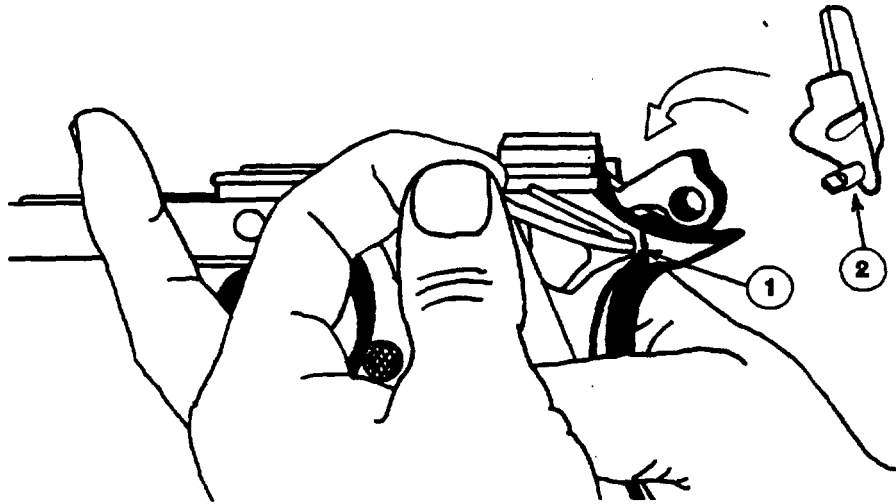
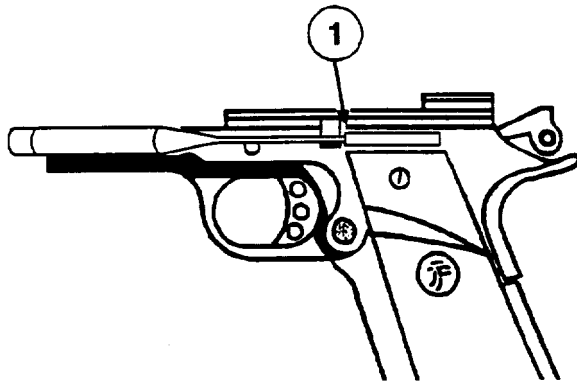
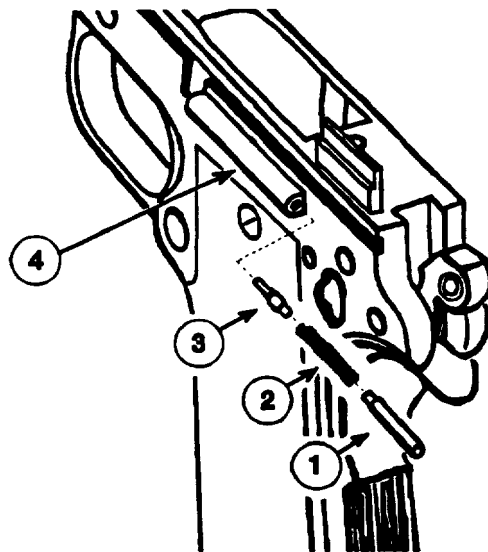
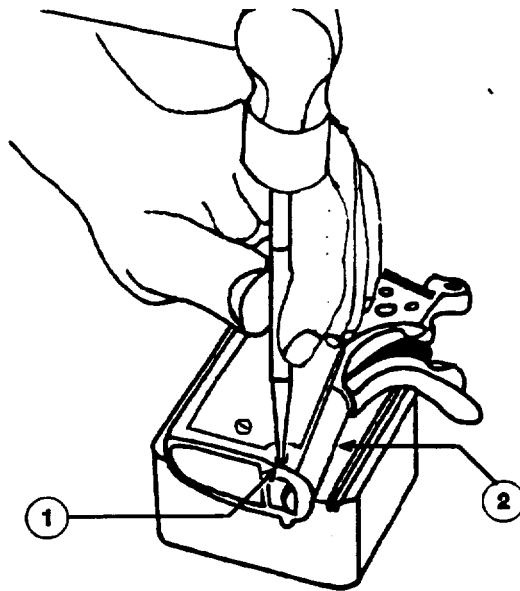

Figure 6-6. Removing Ambidextrous Thumb Safety
Figure 6-7. Removing Plunger Tube Group
Figure 6-8. Plunger Tube Group
Figure 6-9. Removing Mainspring Housing Pin
6-4. PLUNGER TUBE GROUP (Figures 6-6 thru 6-8)
(1) Field strip the pistol following the procedures outlined in para 3-2 of this Manual or in TM 00526A-10/1, Operator's Manual.
(2) Cock the hammer.
(3) Lift, wiggle and remove the *left side* ambidextrous thumb safety (1), Figure 6-6, from the pistol.
(4) Rotate the right side ambidextrous thumb safety (2), Figure 6-6, *down* to clear the hammer pin. Remove the ambidextrous thumb safety from the pistol.
(5) Place the receiver assembly on a bench block.
(6) Using a 1/16" punch, push components out of the plunger tube from the slide stop side of the plunger tube (1), Figure 6-7.
(7) Catch safety detent plunger (1), Figure 6-8, plunger spring (2), and slide stop plunger (3) as they emerge from the safety side of the plunger tube (4).
(1) Inspect the safety detent plunger (1), Figure 6-8, for wear and burrs. If worn or burred, replace safety plunger.
(2) Inspect the plunger spring (2), Figure 6-8, to make sure it is not bent or compressed. If bent or compressed, replace plunger spring.
(3) Inspect the slide stop plunger (3), Figure 6-8, for wear and burrs. If worn or burred, replace slide stop plunger.
(4) Inspect plunger tube (4), Figure 6-8, for burrs and deformation. If burred or deformed, evacuate to intermediate maintenance for repairs.
(1) Use a 1/16" punch to insert slide stop plunger (3), Figure 6-8, plunger spring (2) and safety plunger (1) through the safety side of the plunger tube (4).
(3) Install the right side ambidextrous thumb safety (2), Figure 6-6, and rotate it *up* to engage the hammer pin.
(4) Install the *left side* ambidextrous thumb safety (1), Figure 6-6. Push it in and rotate it *down so as to* engage the right side ambidextrous thumb safety.
(5) Reassemble slide assembly to receiver assembly by following the procedures outlined in para 3-3 of this Manual or in TM 00526A-10/1, Operator's Manual.
(6) Once the pistol is completely reassembled, perform the safety checks outlined in para 6-18 of this Manual.
6-7. MAINSPRING HOUSING GROUP (Figures 6-9 thru 6-12)
(4) Rotate the *right side* ambidextrous thumb safety (2), Figure 6-6, *down* to clear the hammer pin. Remove the ambidextrous thumb safety from the pistol.
(5) Release the hammer.
(6) Place the receiver assembly on a bench block.
(7) Using a 5/32" punch and 4 oz hammer, drive out mainspring housing pin (1), Figure 6-9, from the receiver assembly (2).
(5) Use a 5/32” punch and 4 oz hammer to install mainspring housing pin (1), Figure 6-9.
(6) Cock the hammer.
(7) Install the *right side* ambidextrous thumb safety (2), Figure 6-6, and rotate it *up* to engage the hammer pin.
(8) Install the *left side* ambidextrous thumb safety (1), Figure 6-6. Push it in and rotate it *down so as to* engage the right side ambidextrous thumb safety.